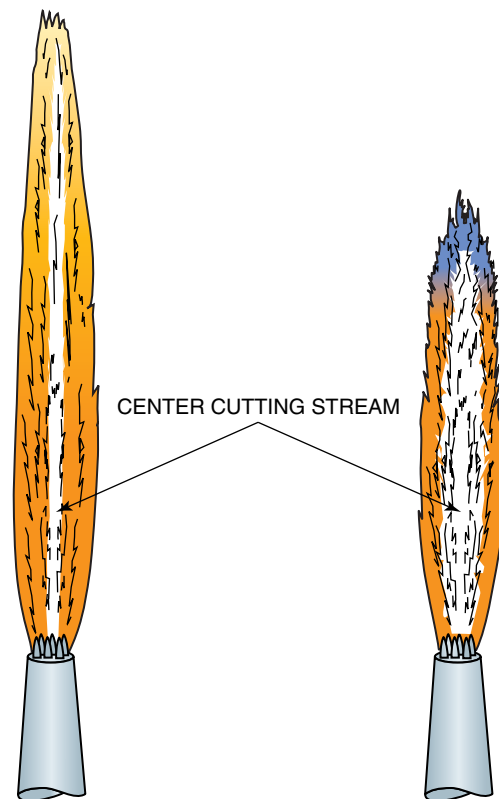

FIGURE 7-35 A clean cutting tip will have a long, well-defined oxygen stream.
7. Increase the pressure slowly and readjust the flame as you watch the length of the clear cutting stream in the center of the flame, Figure 7-35. The center stream will stay fairly long until a pressure is reached that causes turbulence disrupting the cutting stream. This turbulence will cause the flame to shorten in length considerably, Figure 7-35.